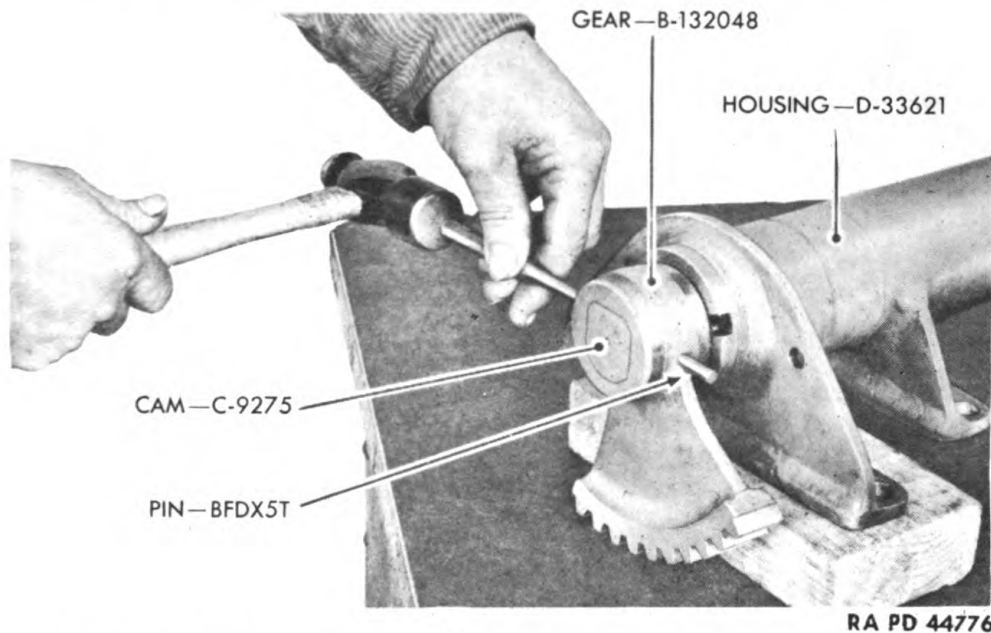

Figure 108—Removing Variable Recoil Cam Gear from Cam
- a. Place the variable recoil mechanism on two wood blocks, 2 x 4 x 6 inches. Drive pin BFDX5T from gear B132048 and cam C9275 (fig. 108). Remove gear.